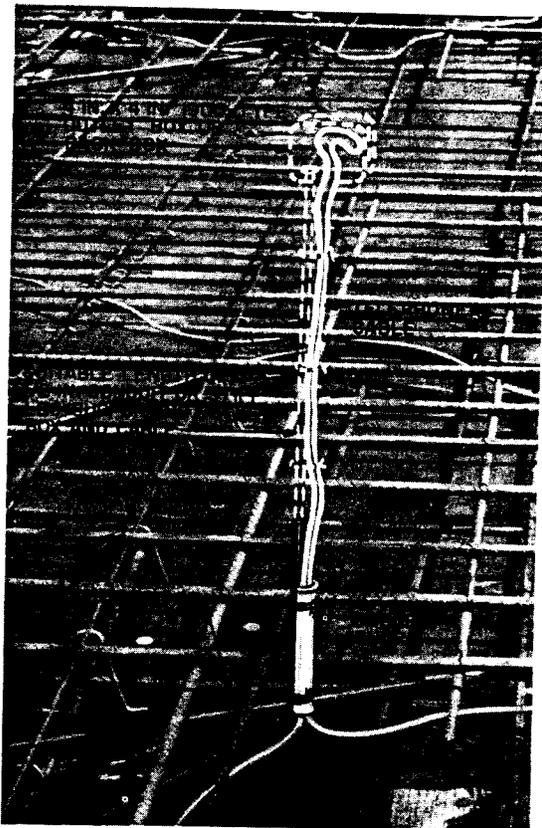

Fig. 3 - Telephone Outlet, Wall Type
2.06 Individual (telephone only) outlets require a support to secure the cable at proper height during wall construction. For other than baseboard outlets, sufficient cable and support material must be considered during the original job layout. Typical installations of this type would be a kitchen counter outlet or a wall outlet. Extend the support to the desired height for the outlet and attach an outlet box (backbox or 4-inch by 4-inch No. 1900). Fasten the cable to the support at 8- to 10-inch intervals with tape or lashing wire. Attach a cable guard as covered in 2.05 and secure the slack cable so that it will not be damaged during further construction. (See Fig. 3.)